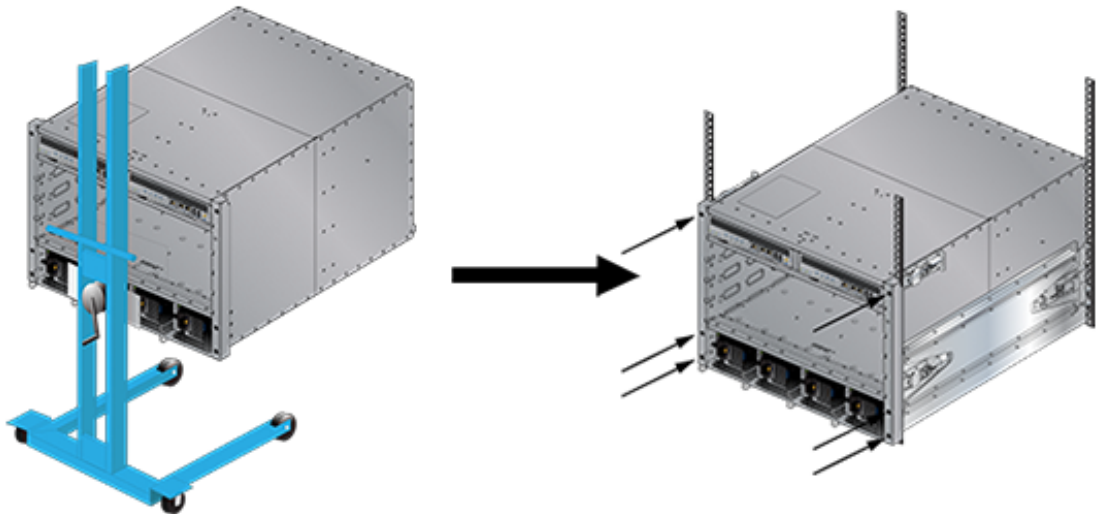

Figure 4: Lifting the Switch Chassis
2. Move the chassis to the rack using a mechanical lift (Figure 4: Lifting the Switch Chassis). If modules are inserted in the chassis, use the lift carefully to avoid damaging any components.